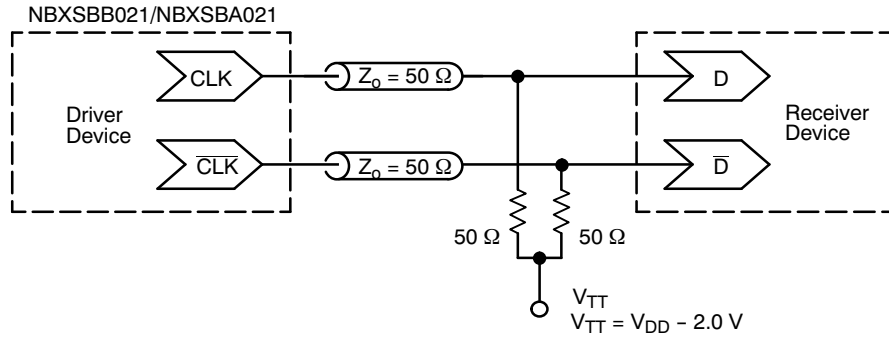

Figure 4. Typical Termination for Output Driver and Device Evaluation
2. Measurement taken with outputs terminated with 50 ohm to  $V_{DD}-2 \text{ V}$ . See Figure 4.
- Measurement taken with outputs terminated with 50 ohm to  $V_{DD}-2 \text{ V}$ . See Figure 4.